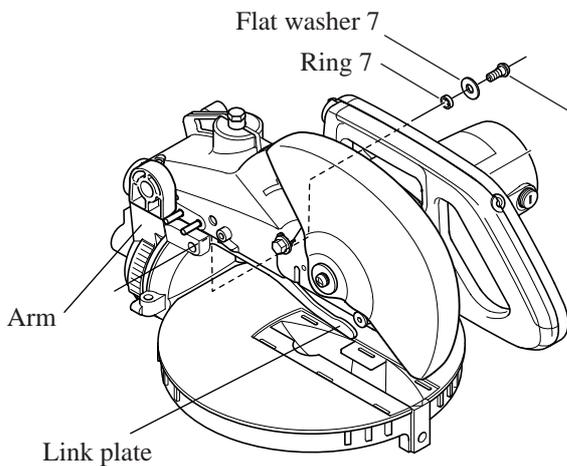

Fig. 13
(5) Fasten link plate to arm with hex socket button head bolt M6. See Fig. 13.